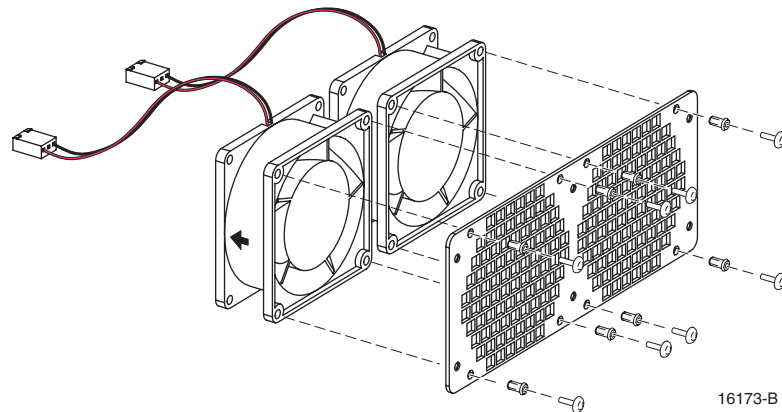

Figure 5-3. Removing Host Unit Fans From Grill
7. Remove the plastic rivets that secure each fan to the grill by pushing outward on the rivet center post until the rivet can be withdrawn from the grill as shown in Figure 5-3.